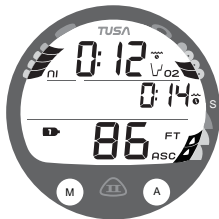

Fig. 52 - NO DECO MAIN
**NORM No Deco Main**, information includes (Fig. 52) -